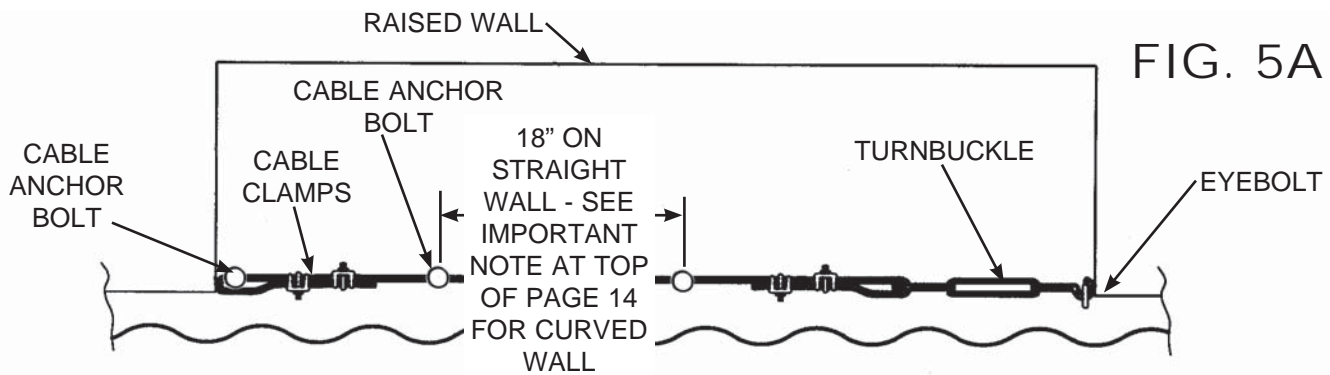
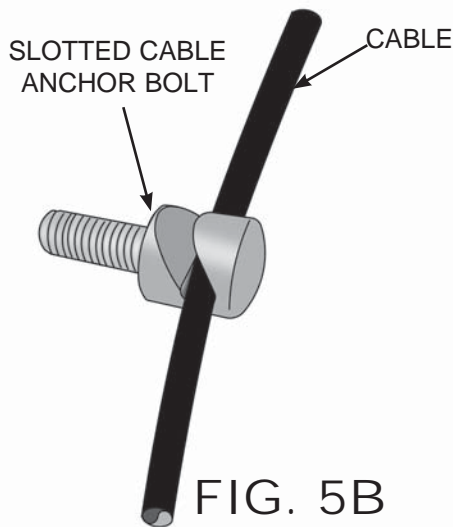
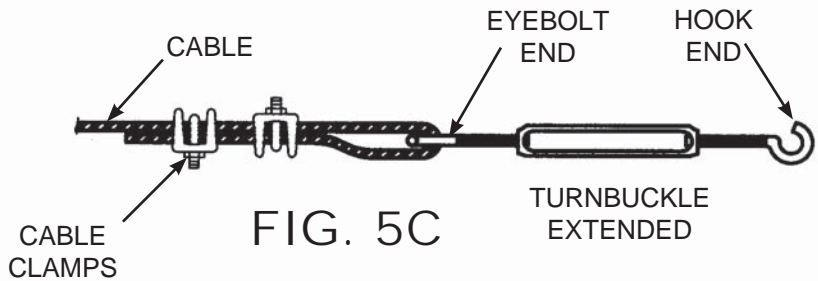

FIG. 5A
FIG. 5B
FIG. 5C
2) Install 3/8" drop-in anchors at the opposite end of the cable area and approximately 18" apart for the 3/8" cable anchor bolts. When installing the cable anchor bolt to the cable area, align the hole in the anchor bolt in the direction of the cable. see FIG. 5A. Run the cable through the in-line holes. see FIG. 5B. Run one end of the cable through the cable anchor at one end of cable area and loop. Attach (2) cable clamps and tightly secure cable, see FIG. 5A. Run other end of cable through eyebolt on turnbuckle, make loop and attach (1) cable clamp for now. With turnbuckle fully extended out, attach hook end of turnbuckle to the eyebolt at the end of the cable area. Loosen the (1) cable clamp and pull cable as taut as possible. Tighten (1) cable clamp and add second cable clamp now. Be sure all cable clamps are tight to secure the cable. Rotate mid-section of turnbuckle to tighten cable further, see FIG. 5C.